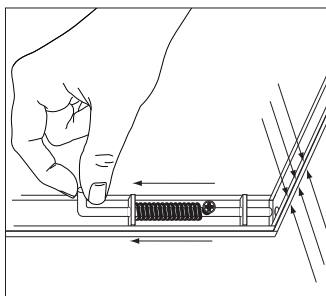

Fig. 3
Step 3: Square door within frame with tension still applied to Spring Lock assembly. (Fig. 3),